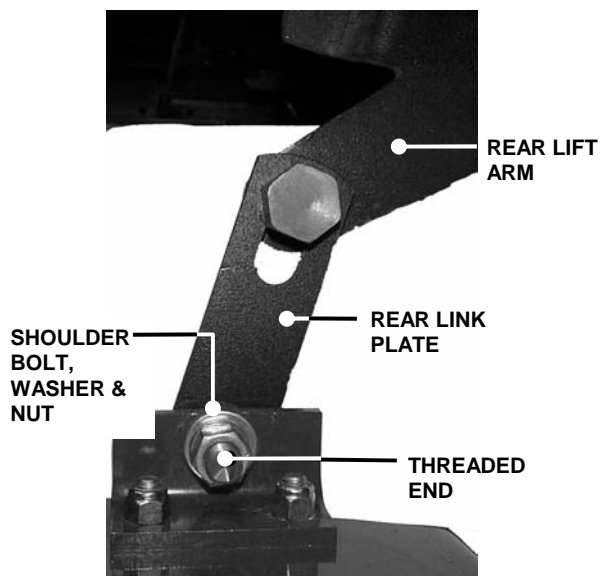

FIGURE 4.10
4. Remove shoulder bolts, washers and nuts from front and rear lift arms. See Figure 4.10.